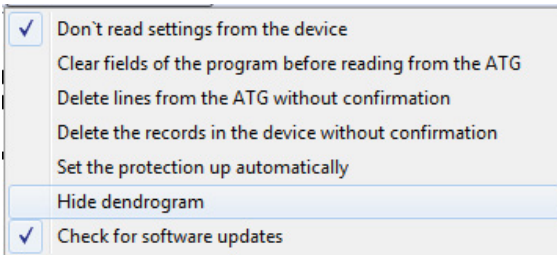

Fig.7. Program configuration menu.
1. Settings. Options available on this tab can also be found in the “Program configuration” menu (see Fig.7).